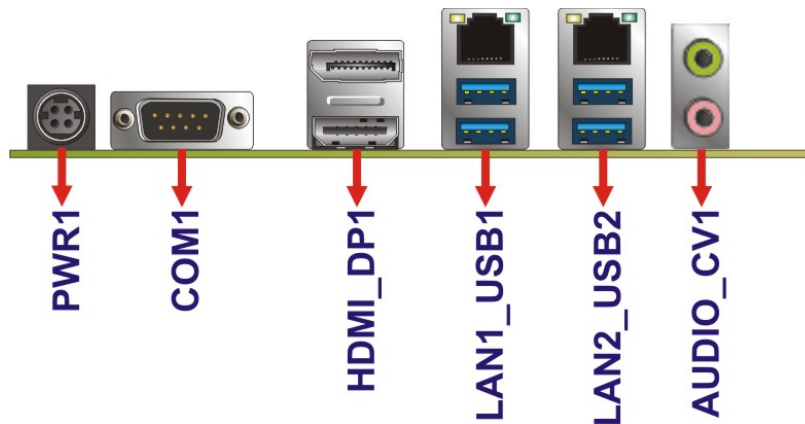

Figure 3-28: External Peripheral Interface Connector
CN Location: See **Figure 3-28**
- CN Location: See Figure 3-28
CN Location:	See Figure 3-28
- CN Location:** See Figure 3-28